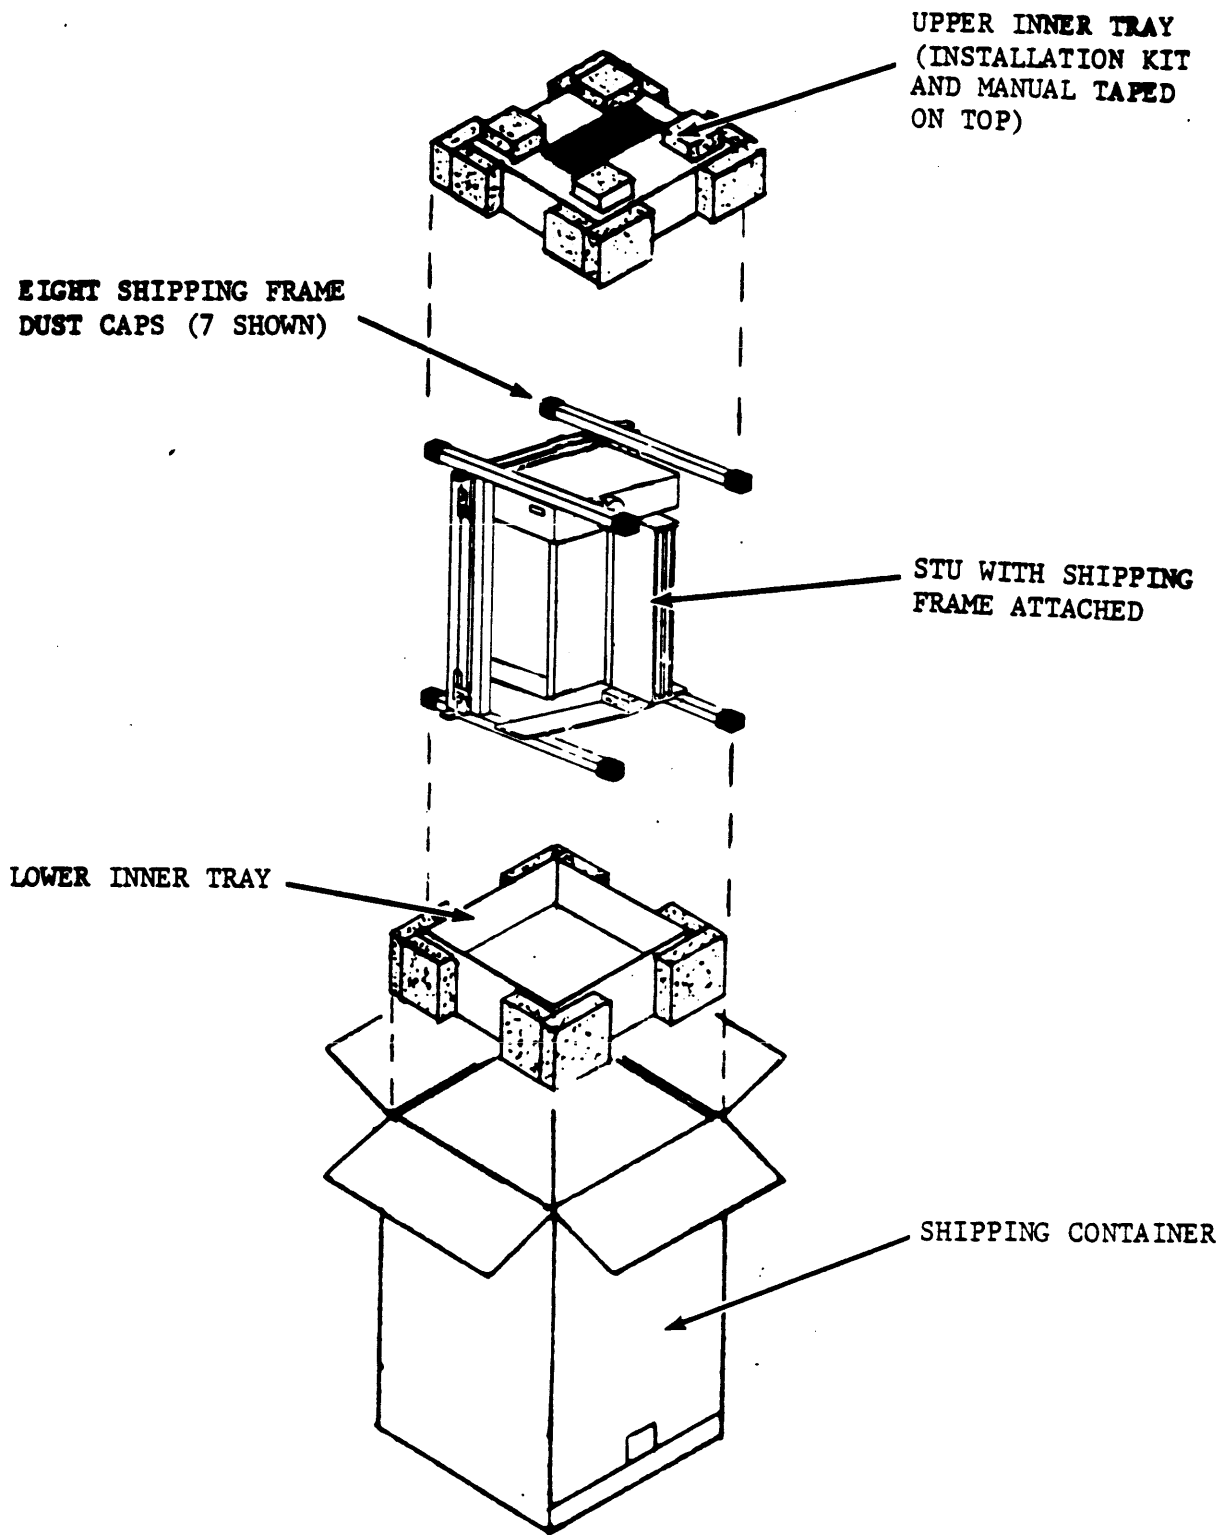

Figure 3-2. STU Packaging
Each STU is packed in a 500-pound tested, double-wall corrugated container, 23 inches by 24-1/2 inches by 31-1/2 inches high, with inner protective packaging as shown in figure 3-2. The STU should be unpacked in the area or room where it will be installed and, because of the weight (approximately 132 pounds packaged), the unpacking requires two people. Perform the unpacking as follows:
2. Remove STU and all protective packaging as follows: (See figure 3-2)